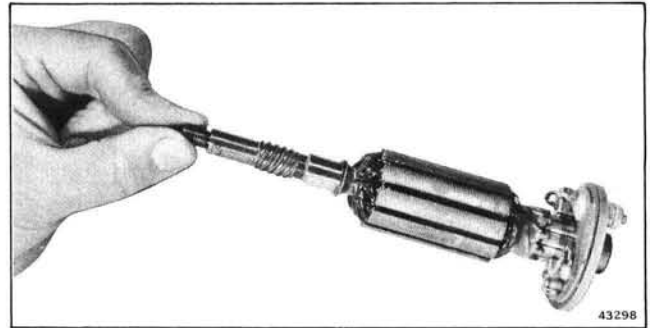
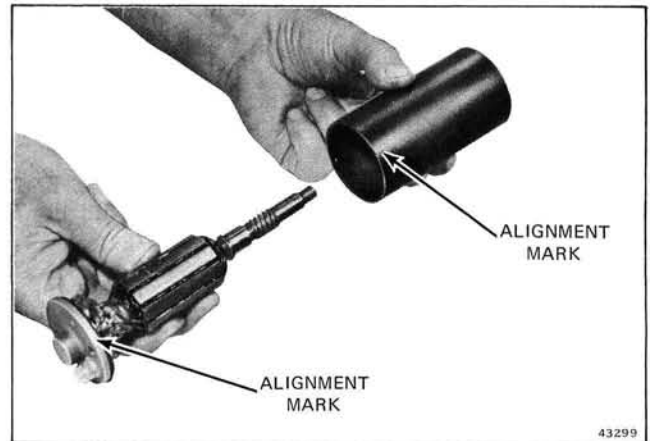

Figure 7-9. Brush End Head on Armature
Figure 7-10. Assembling Armature to Frame
b. Assemble brush end head with brushes and springs to armature shaft. See Figure 7-9. Position new gasket on end cap. Align brush end cap mark with marks on frame. Assemble to frame and field assembly. See Figure 7-10.